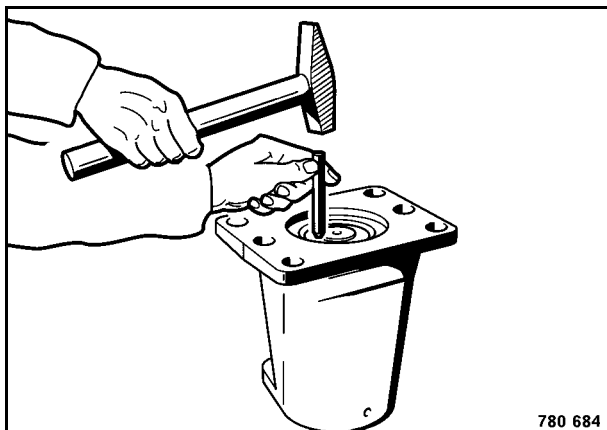

Fig. 8
- Secure the tensioning nut with two prick-punch locks opposite each other (Fig. 8).